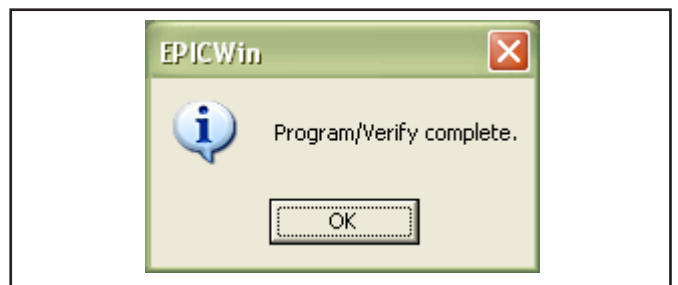

Figure 9.
7. After downloading is complete a message box will state it is complete. See figure 9.